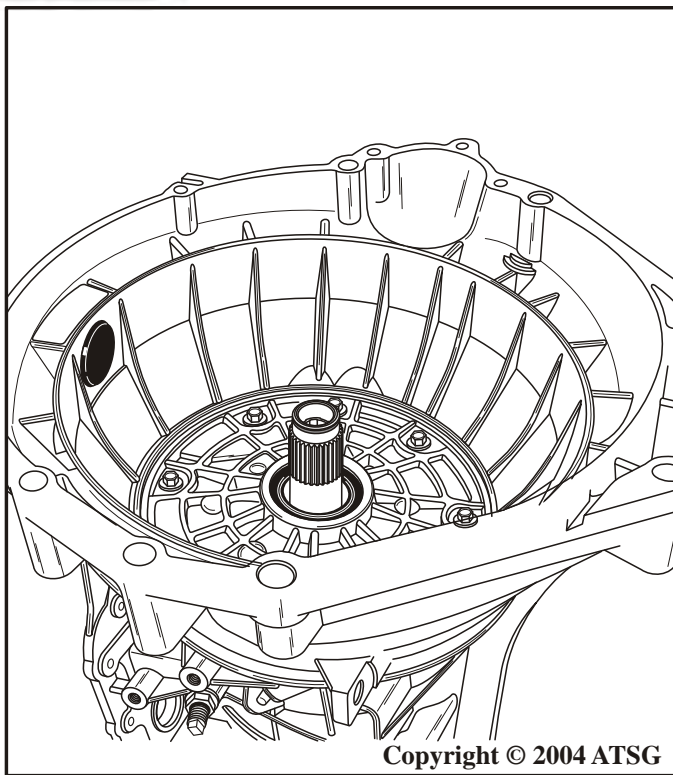

Figure 34
26. Rotate the transmission in bench fixture so that the pump is facing up, as shown in Figure 34.